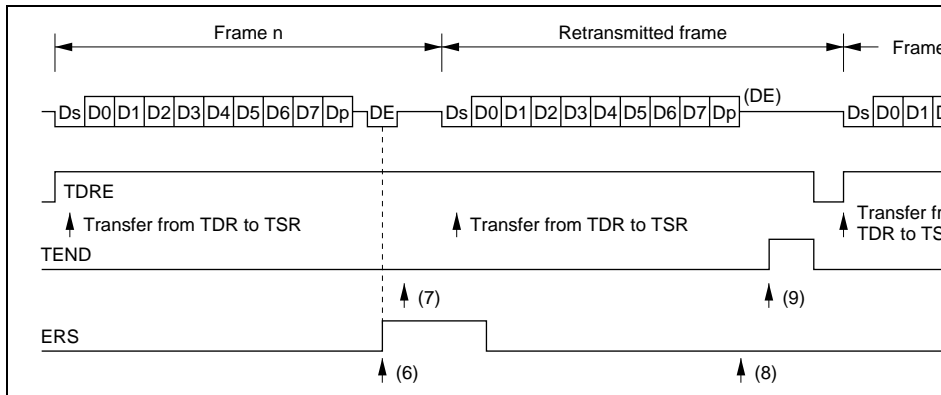

Figure 14.12 Retransmission in SCI Transmit Mode
- Retransmission when SCI is in Transmit Mode (see figure 14.12)